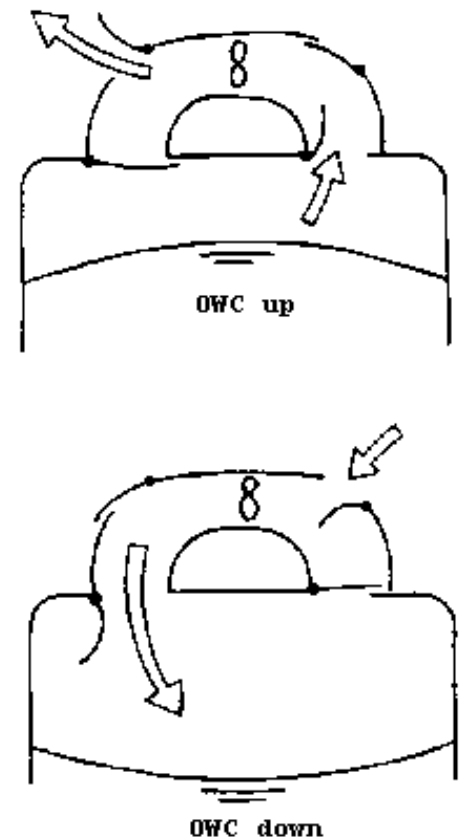

Figure 9
- (4) complex gear mechanisms or hinged turbine blades. Others may say it can't be solved. Any team suggesting a one-way valve will be rewarded with the satisfaction of seeing their idea work in actual practice!
- If time permits, you can explain that it is the flywheel inertia of the turbine that keeps it spinning while air is being drawn in through the flap valve. Can the students think of a valve system that would direct air through the turbine on both strokes? One possible solution is shown in Figure 9
- (8)